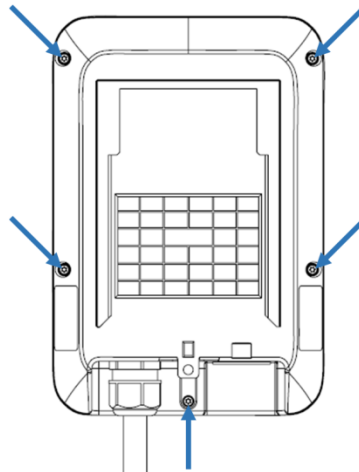

Figure 2-9 Five Torx screw locations to remove the Charging Station Cover
- 3-2. Remove the Charging Station front cover by loosening the (5) Torx screws at the rear of the charging station. Screw locations are shown in Figure 2-9, below: